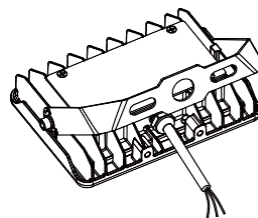

figure 3.2
Step 2:Tighten the brackets and screws. (figure 3.2)